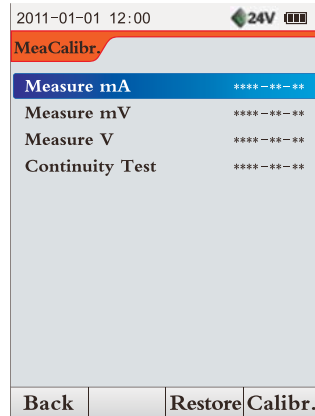

Figure 9.18 Measure and calibration list
a) As Figure 9.18, in the list, user can choose current and press **F4** or **Enter Hold** to calibrate.
The interfaces in figure 9.18 and 9.20 are measure and source items list. When the calibrator is off factory, the calibration date